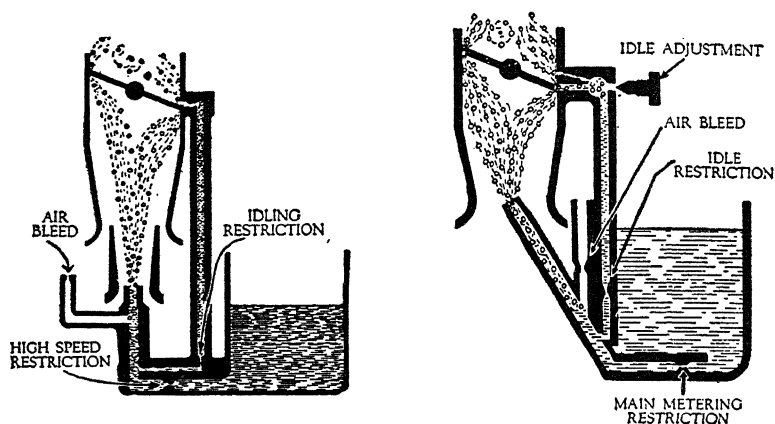

Fig. 50. Left —Model "O" Carburetor
**Idling System.** It is practically impossible to get a satisfactory idling speed if the main jet is depended on to supply all of the fuel. This is because of the fact that when the throttle is closed, as shown in Fig. 50, the suction below the throttle is relatively slight. On the other hand when the throttle is closed, as shown in Fig. 50, the suction above the throttle is at its highest. For this reason, the arrangement shown of providing a separate passage for
the fuel to a point just above the closed throttle is made use of. As shown in Fig. 50, the idling passage draws the fuel from the main jet so that no fuel can come through the idling system that has not already been metered through the main-jet system. At very low speeds the mixture is controlled by the idling orifices or openings. At higher speeds the mixture is controlled by the high speed orifices although a considerable amount of fuel may be going through the idling passage. Whether the fuel may be going through the idling passage or not depends upon where the suction is highest—at the idling passage or at the idling discharge jet. If the suction is highest at the small venturi, the fuel will spray from the main discharge jet; and if it is highest at the idling jet, more fuel will be drawn from